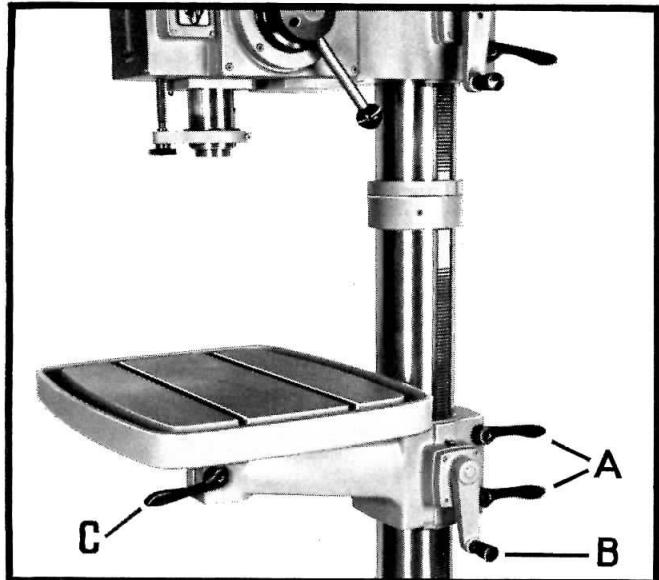

FIG. 8
The table on your machine is easily raised or lowered by loosening the two locking levers (A) Fig. 8, and turning handlelever (B) until the table is at the desired height. After table is at desired height tighten locking levers (A). Also, the table can be rotated 60° right or left by loosening locking lever (C) Fig. 8.
## H — ELECTRICS (FIG. 8)